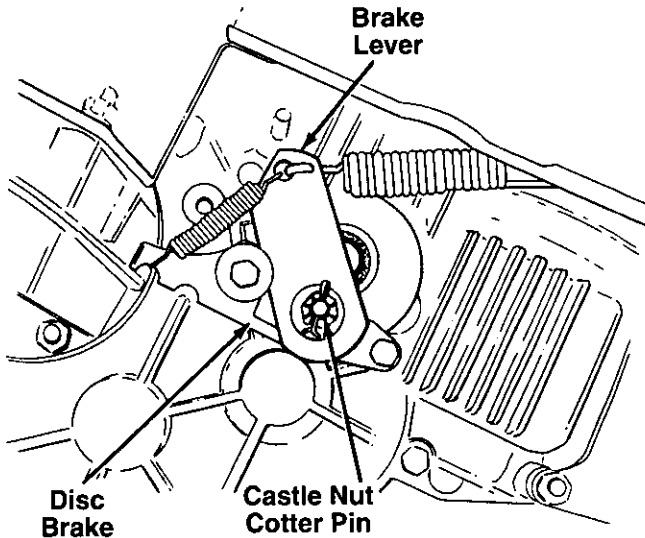

FIGURE 19.
### BRAKE ADJUSTMENT (See figure 19)
**NOTE:** Figure 19 is shown with the unit tipped up on rear wheels for clarity only.